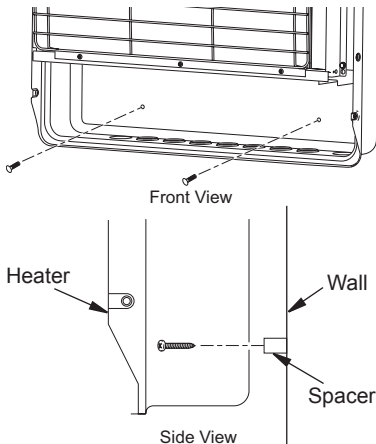

Figure 12 - Installing Bottom Mounting Screws
1. Locate two bottom mounting holes. These holes are near bottom on back panel of heater (see Figure 12).